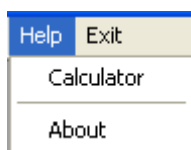

Fig.4-7
4.2.6 Help menu, as shown in Fig. 4-7: